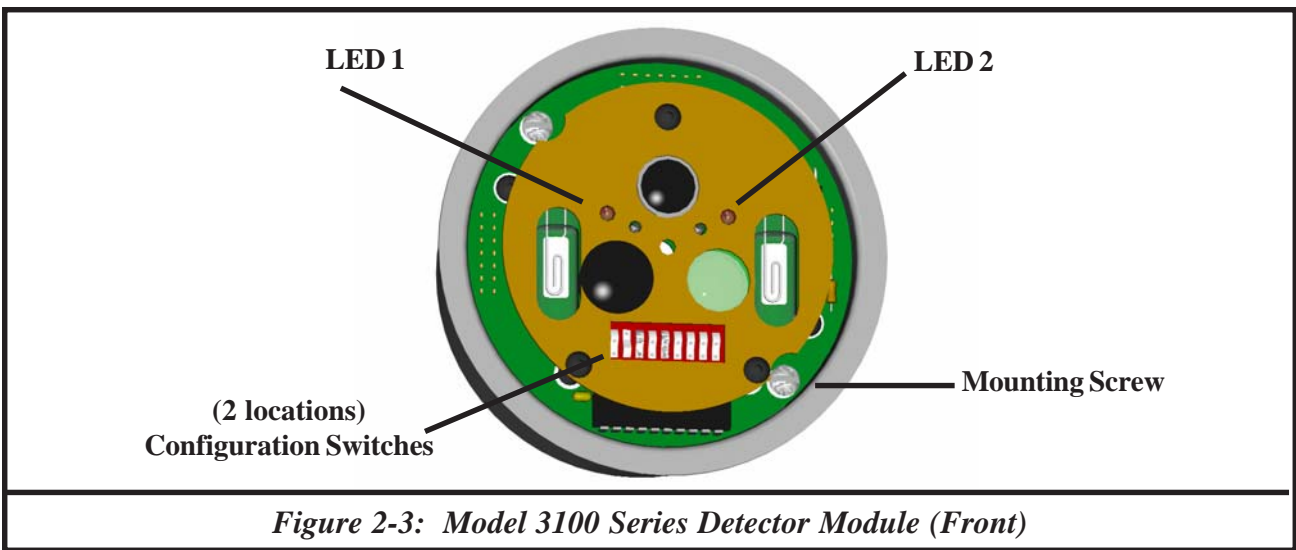

Figure 2-3: Model 3100 Series Detector Module (Front)
2.6 LED operation (See Figure 2-3)